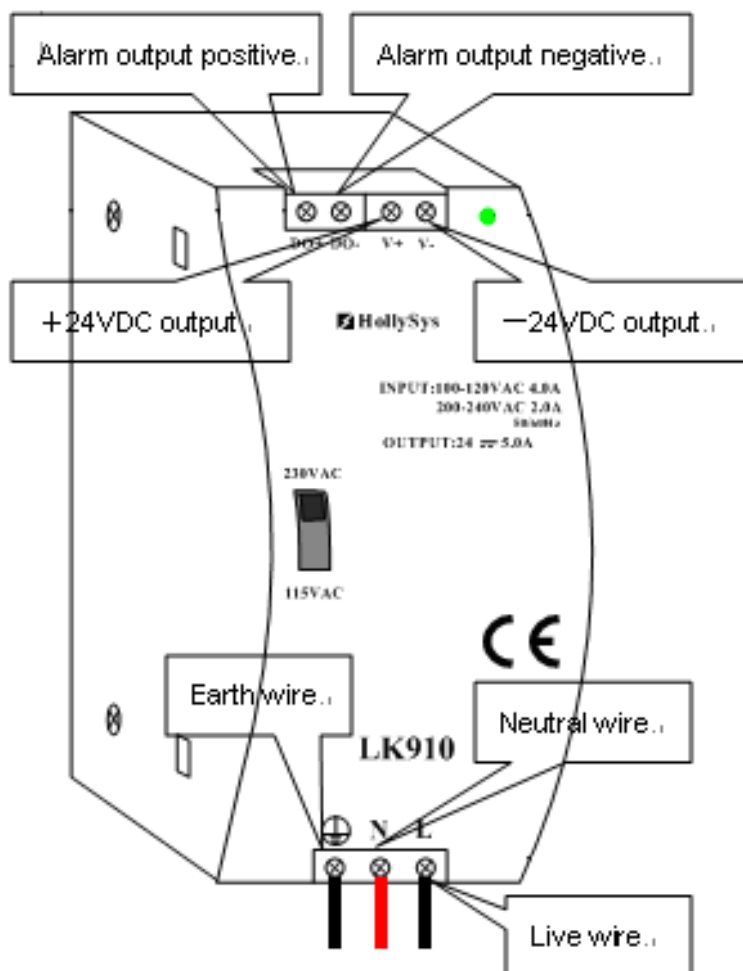

Figure 13.3: Wiring terminals of LK 910
- The wiring terminals are located on the top and bottom ends of the module. The top terminals are 24V DC output terminal and alarm output terminal while the bottom ones are for AC input. Please refer to Figure 13.3 for more detailed definitions.